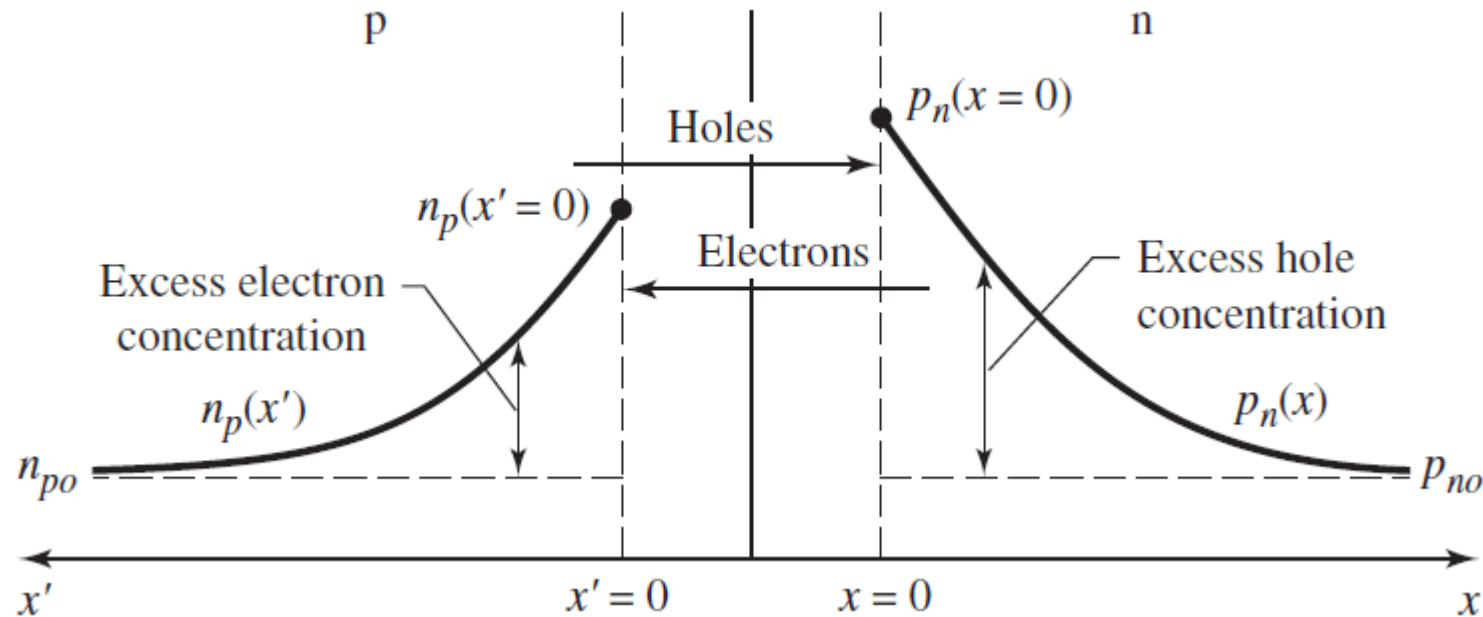

Figure 1.16
- Figure 1.16 shows the resulting **excess minority carrier concentrations** at the space-charge region edges.
- Thus establishing a steady state condition, as shown in Figure 1.16.
- Figure 1.16 shows the steady-state minority carrier concentrations in a pn junction under forward bias.